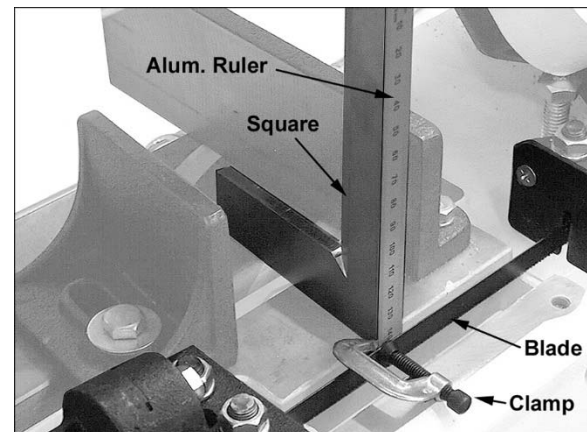

Figure 20
1. “Extend” the surface of blade by clamping a straight, flat object to blade. (Figure 20 uses a small, lightweight aluminum ruler.) Use a lightweight clamp.